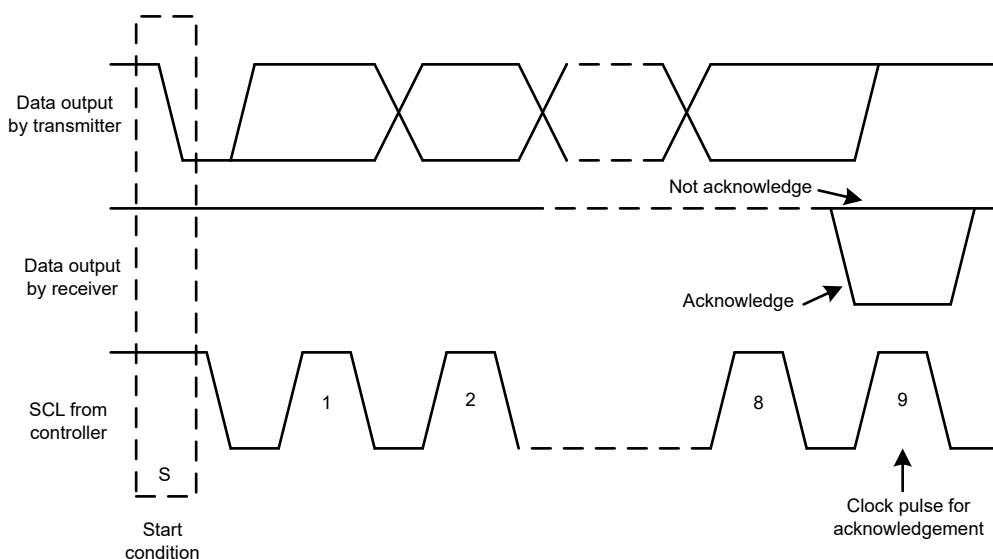
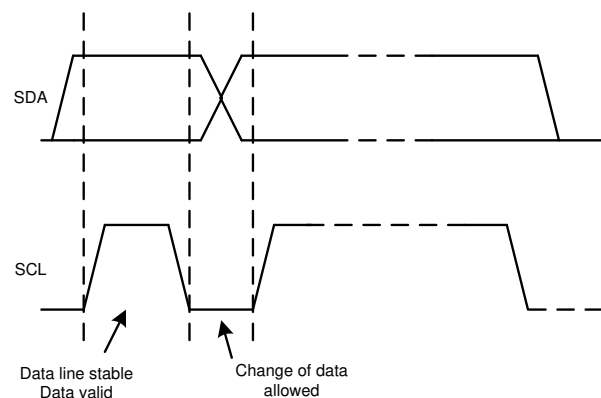

图 7-11. Acknowledge and Not Acknowledge on the I²C Bus
图 7-13. Bit Transfer on the I²C Bus
Other than specific timing signals, the I²C interface works with serial bytes. At the end of each byte, a ninth clock cycle generates and detects an acknowledge signal. An acknowledge is when the SDA line is pulled low during the high period of the ninth clock cycle. 图 7-11 depicts a not-acknowledge, when the SDA line is left high during the high period of the ninth clock cycle.
2. The controller then generates the SCL pulses, and transmits the 7-bit address and the read/write direction bit (R/\overline{W}) on the SDA line. During all transmissions, the controller makes sure that data are valid. 图 7-13 shows that a valid data condition requires the SDA line to be stable during the entire high period of the clock pulse. All devices recognize the address sent by the controller and compare the address to the respective internal fixed address. Only the target device with a matching address generates an acknowledge by pulling the SDA line low during the entire high period of the 9th SCL cycle (see also 图 7-11). When the controller detects this acknowledge, the communication link with a target has been established.